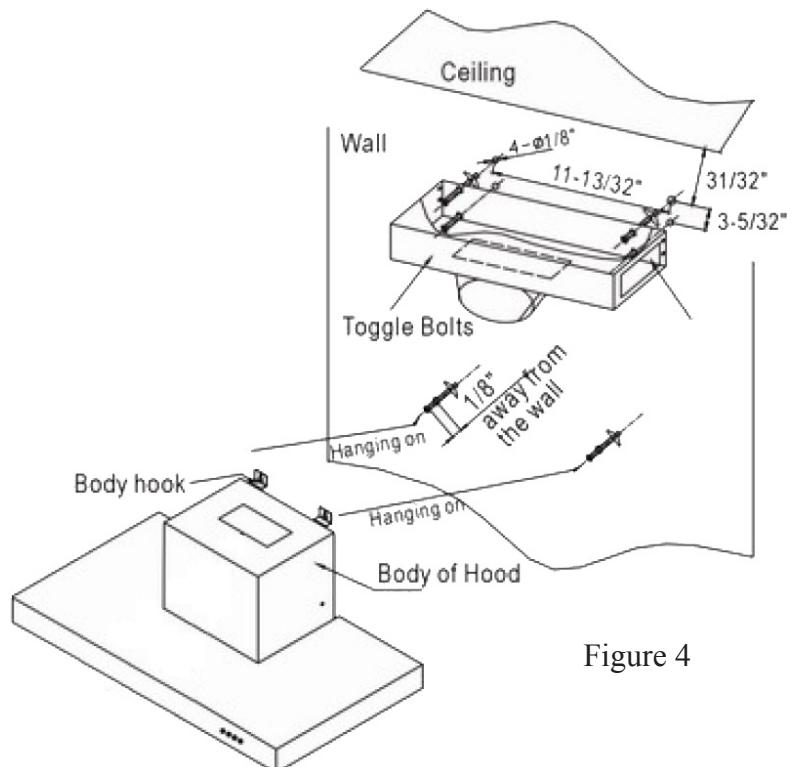

Figure 4
- Find an optimal location for the Air Diverter. The air diverter must be placed directly above and align with the two body hooks, see Figure 4. Drill four more holes with diameter not exceeding 5/8" and insert four toggle bolts. Secure the air diverter with four 4mm x 16mm Tapping Screws as shown in Figure 4. Be sure to use appropriate anchors for your wall. Use four sets of 5mm x 16mm Screw with Washer to install the body hooks onto the hood. Then hang the hood on the wall and tighten the screws.